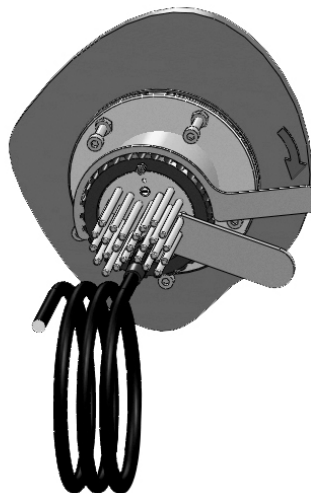

Fig.4.4
5. You will now need to re-install the rear locking ring which is packed separately. This locking ring is simply screwed onto the rear of the housing until it comes to a stop. It is crucial that this ring is screwed down all of the way until this stops. Tools are included in this kit to help with this Installation. The larger style half-spanner tool, marked 'A', will fit into the grooves on this locking ring. Slide the 3-hole tool, marked 'B', down the pins on the rear of the light unit and you will be able to leverage this ring until it is tight against the body of the light unit. (See Fig.4.4)..